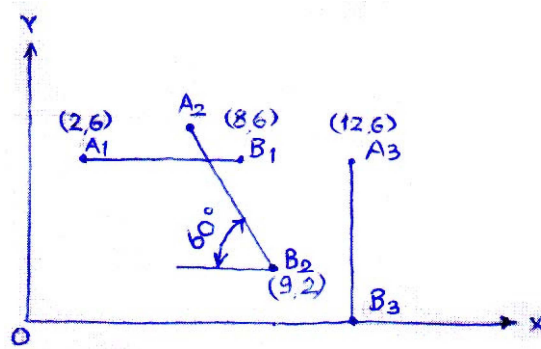

Fig.4(b)
b) Discuss 3-position graphical synthesis of a 4-bar mechanism for body guidance. Synthesize a 4-bar mechanism to guide a rod AB through the three consecutive positions A_1B_1 , A_2B_2 & A_3B_3 as shown in Fig.4(b). [5]